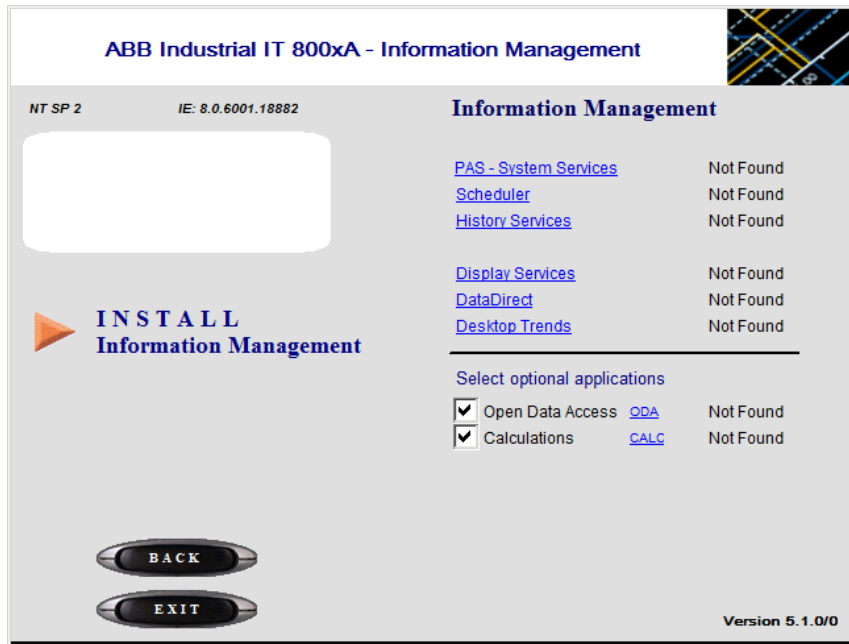

Figure 51. Information Management Install Dialog Box for IM Server
4. Click **Continue** to continue installing the Information Management software. This displays the Information Management Install dialog box (Figure 51).